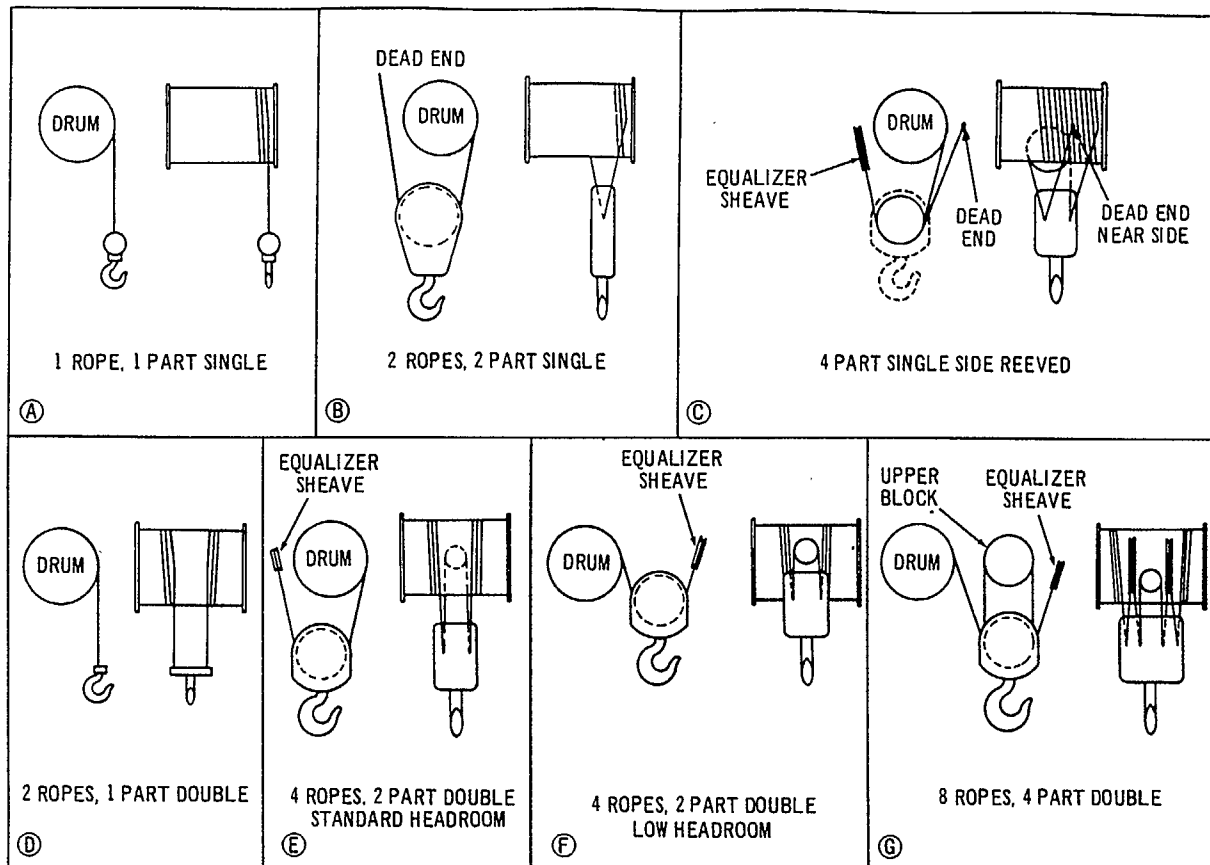
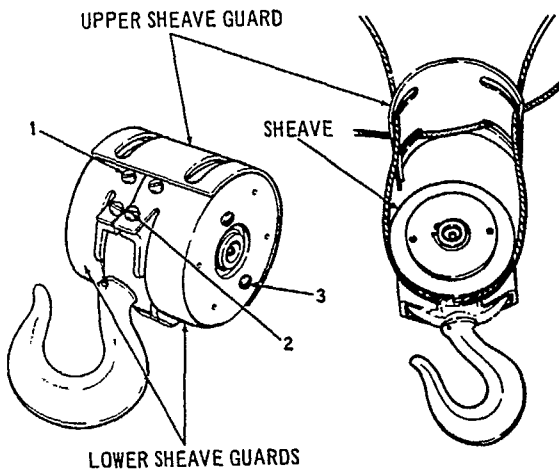
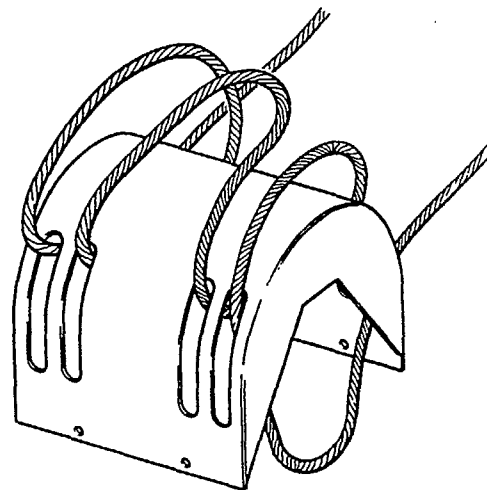

Figure 5-24. Basic Reeving Diagrams
Figure 5-26. Installing Wire Rope in Double Reeved Bottom Block
Figure 5-27. Wire Rope Threaded through Sheave Guard of Bottom Block for Four Part Double Reeving
Figure 5-24 illustrates the basic reeving diagrams for Balanced Design Hevi-Lift Hoists. The reeving procedures for 1 rope, 1 part single (A) and 2 ropes, 1 part double (D) require no special instructions. The following instructions outline the reeving procedures for the other types.
TWO PART DOUBLE REEVING. Proceed as follows to replace a two part double reeved wire rope (see Figure 5-24, E and F, and Figure 5-26):
FOUR PART SINGLE SIDE REEVING. Replacing a four part single side reeved wire rope (Figure 5-24, C) is the same as replacing a two part double reeved wire rope except that only one end of the wire rope is inserted into the drum and the other end of the wire rope is the dead end which is attached to the hanger. The limit switch counterweight rides on the dead end of the wire rope.
FOUR PART DOUBLE REEVING. Proceed as follows to replace a four part double reeved wire rope (see Figure 5-24, G, Figures 5-27 and 5-28):
10. Thread the live end sockets through the inner slots of the sheave guard (see Figure 5-27). Then thread the live end sockets through the outer slots of the sheave guard, threading in the same direction as used to thread the inner slots. This will leave four loops of wire on the underside of the sheave guard (one loop for each bottom block sheave) and three loops on the upper side (one loop for each sheave in the upper block and one for the equalizer sheave).